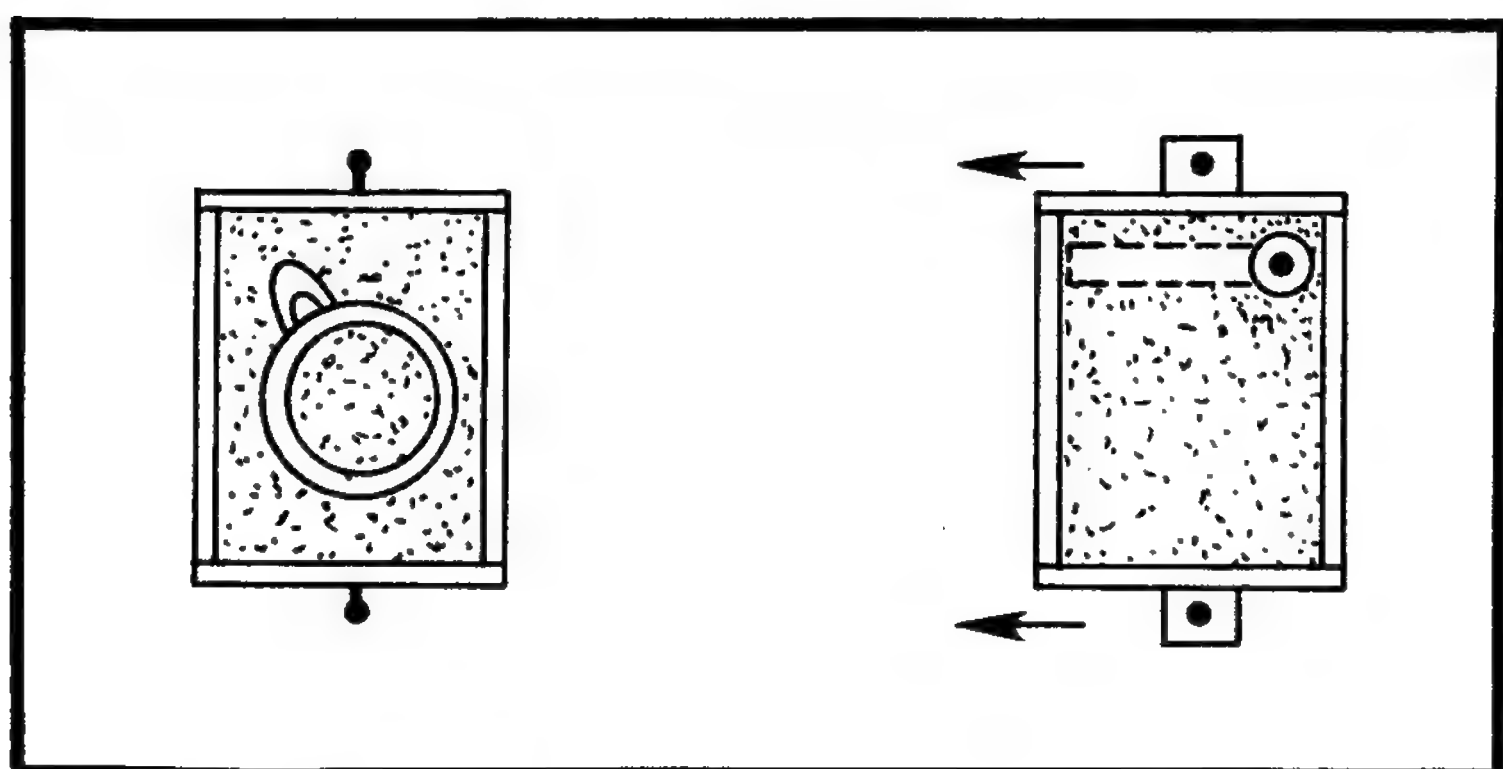

Fig. 7-21. Closing the flask.
When you feel the drag pin come up through the guide and touch the heels of both hands, level out top of cope and lower cope on to drag by opening both hands evenly and slowly until the cope seats on the drag. Don't drop the cope on to the drag or bump it down when closing. With a parting bag, or sock, full of wheat flour shake enough into the pouring basin to give it a white color. This does two things: (1) the dampness from the sand will stick to the flour and help prevent sand washing into the mold from the pouring basin when the mold is poured. Some molders dust all gates and runners with flour; (2) the pouring basin being white makes a much more visible target to hit when pouring the mold (a must when pouring late in the evening or at night). An unfloured pouring basin can simply disappear in a shadow if the lighting is bad or appears to be where it is not. See Fig. 7-21.